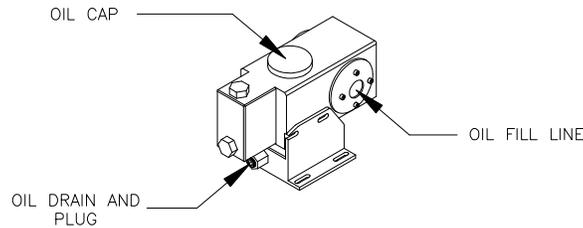

Figure 5.1: High Pressure Pump and Drain Plug – Isometric Views.
- Step 3:** Remove the oil plug (Refer to Figure 5.1) and direct the oil to a catch basin. Allow the oil to drain empty.